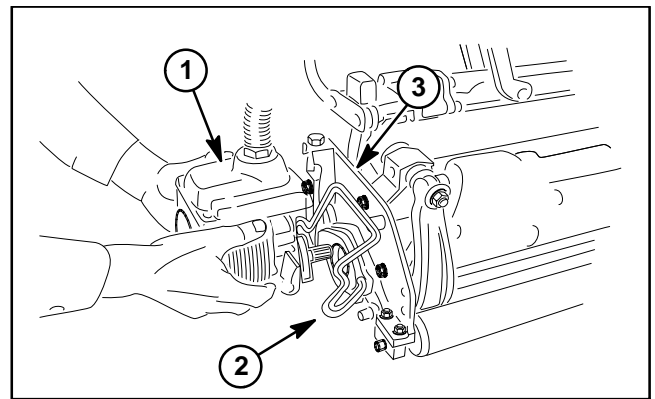

Figure 115
- B. Slide cutting reel motor from cutting unit (Fig. 115).
7. If necessary, remove two (2) retaining rings that secure motor mount (item 4) to reel motor. Remove motor mount from motor.
1. If motor mount was removed from motor, position motor mount to cutting reel motor flange and secure with two (2) retaining rings.
- B. Align cutting reel motor shaft splines with splines in cutting reel. Slide reel motor into cutting unit side plate (Fig. 115).